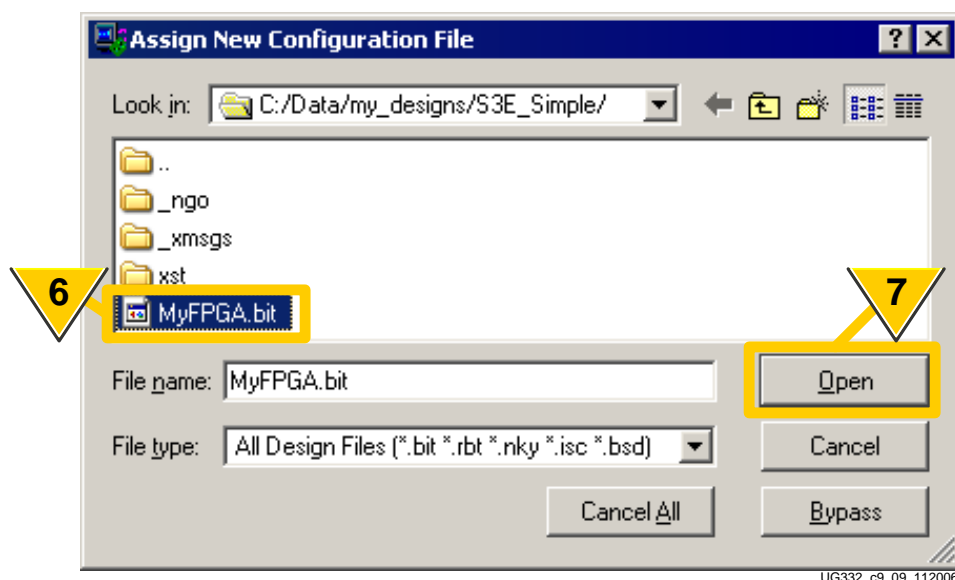

Figure 9-10: iMPACT Prompts for FPGA Bitstream
6. As shown in Figure 9-10, the iMPACT software automatically prompts for the FPGA bitstream. Select the desired bitstream to download specifically to the FPGA.